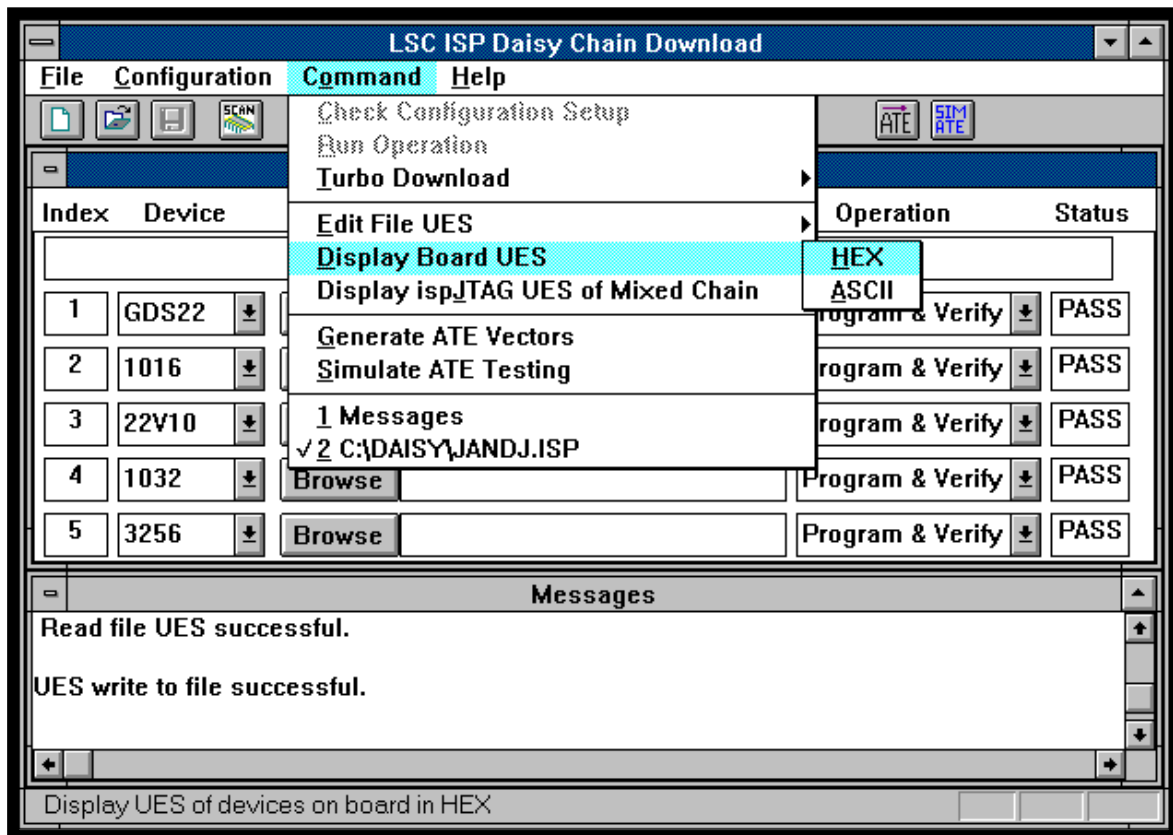
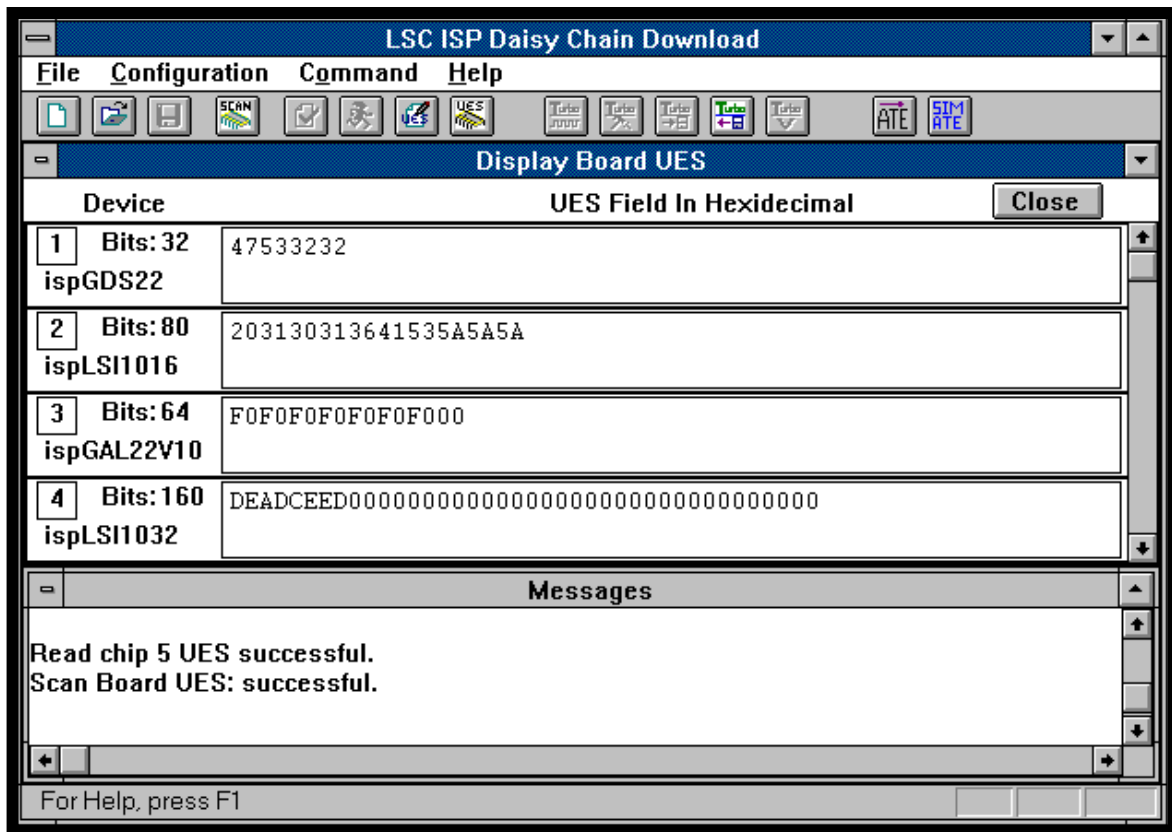

Figure 3-23. **Command** ⇒ **Display Board UES** ⇒ **HEX** Menu Option
Figure 3-24. Display Board UES Dialog Box
1. Select **Command** ⇒ **Display Board UES** ⇒ **HEX** or the **read UES** icon from the ISP Daisy Chain Download menu (Figure 3-23). This function performs a scan for the UES on the board. The icon defaults to hexadecimal format. You may also select the **ASCII** option. The Display Board UES dialog box appears (Figure 3-24).